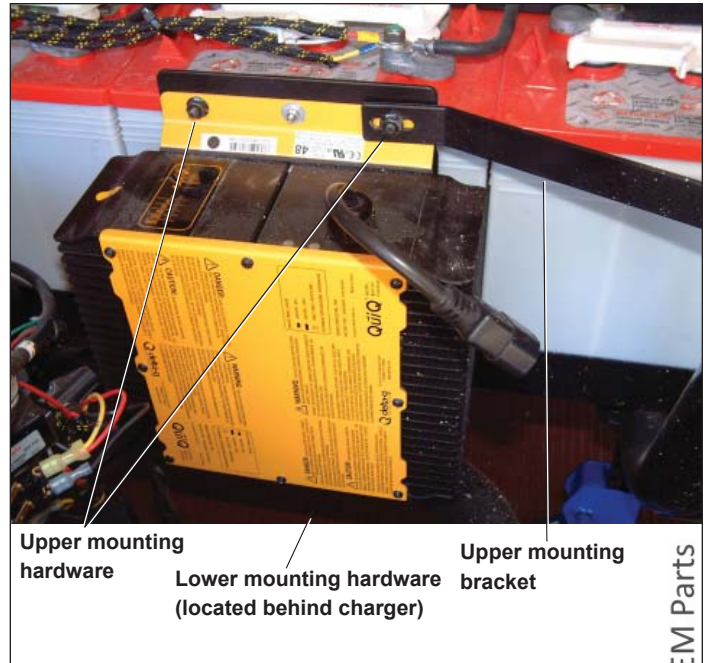

Figure 9-11. Charger and Bracket
2. Remove four nuts, four washers, four bolts and charger. See Figure 9-11.
1. Position new charger to mounting bracket. See Figure 9-11.